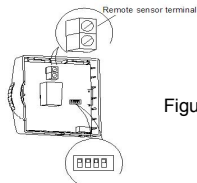

Figure3
3. The floor sensor cable must be installed to terminal block. (See fig.3) in heating type F or RF, otherwise thermostat will shut down heating out put and display will show **E3/E4** indicate floor sensor problem.